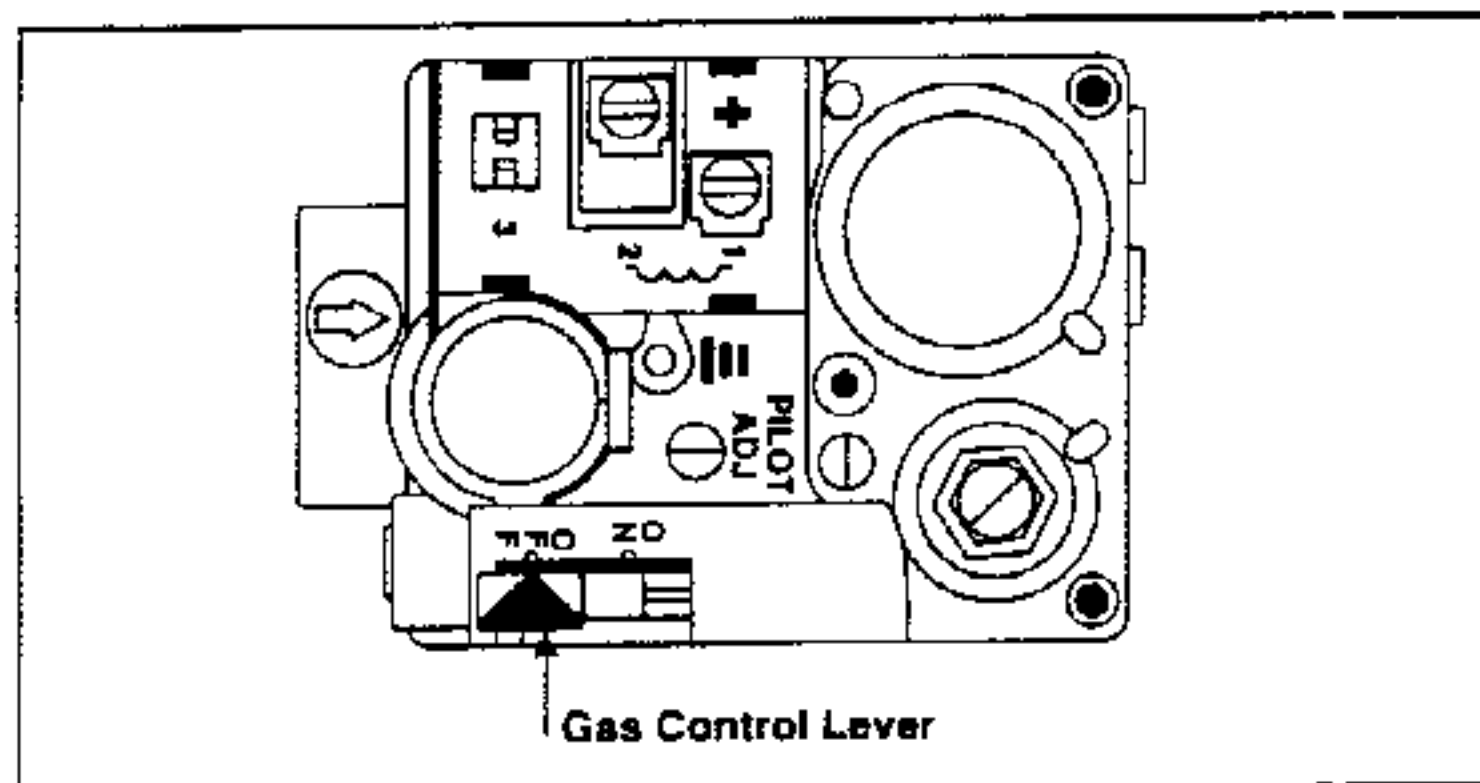

Figure 33. Gas Gun Gas Valve
5. Push in the gas control lever slightly and push left to "OFF." NOTE: The lever cannot be placed in the "OFF" position unless the knob is pushed in slightly. DO NOT FORCE (Figure 33).